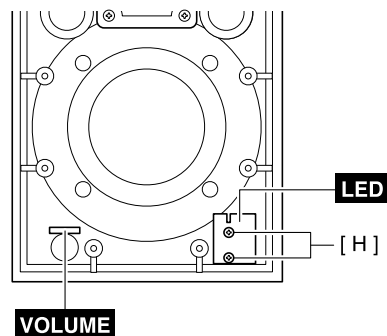

Fig. 9 (図 9)
- 7-2 Remove the two (2) screws marked [H]. The LED circuit board can then be removed. (Fig. 9)
- 7-2 [H]のネジ2本を外し、LEDシートを外します。(図 9)